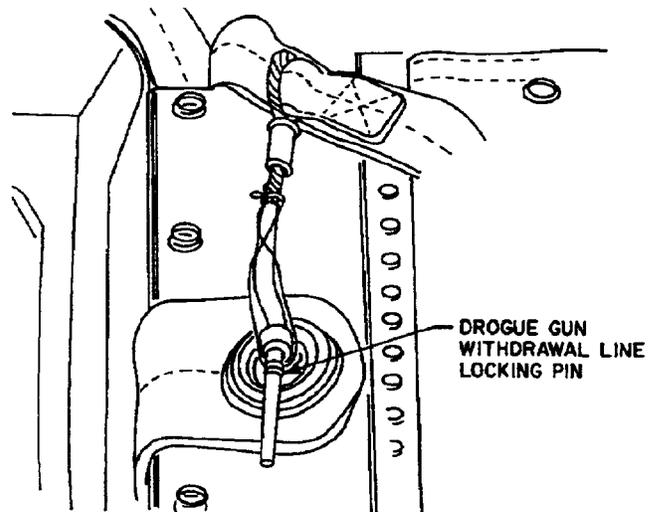

Figure 9. Hold Container Over Locking Cone
k. Hold container cover over locking cone and insert drogue gun withdrawal line locking pin. Insert approximately half of the locking pin into the locking cone. Locking pin shall not protrude past the protective cover. Adjust locking pin as necessary. Safety-tie locking pin by looping a 12-in. length of size A thread, single, under pin; tie off with four half-hitches (Figure 9).